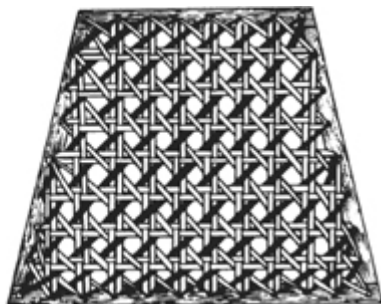

fig. 8
21. Stage 6 is the reverse of Stage 5. Peg a piece of cane into the front left corner and work toward the back right corner. Weave the cane over stages 1 and 3, the vertical canes, and under stages 2, 4 and 5. The two horizontal stages and one diagonal stage. The adjustments on the sides will be reversed. Where you skipped holes in Stage 5, you will now put in double strands of cane and where you had double strands you will now skip the holes. See Figure 8.